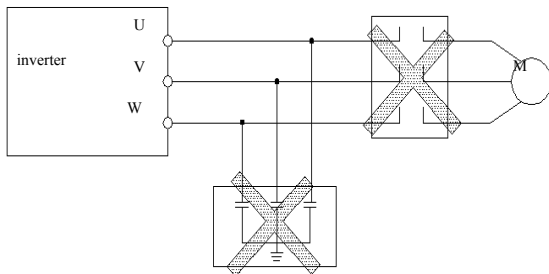

Fig.3-3 Forbid to use contactor and absorbing capacitor
- (1) Assure power be cut off completely for above 10 minutes before wiring, otherwise there is danger of getting electric shock.
- (2) Forbid connecting power wire to output U, V, W of the inverter.
- (3) If there is current leakage inside inverter, when current leakage greater than 5mA for medium & big power inverter, inverter and motor must be earth grounding for safety assurance, and the diameter of earth grounding copper cable is greater than 3.5mm^2 , resistor less than 10Ω .
- (4) Before shipment compression resistance test of the inverter is passed, so users should not conduct compression resistance test again.
- (5) Do not add absorbing capacitor or other resistance-capacitor absorbing device between inverter and motor; also do not add electromagnetic contact, show as Fig.3-3
- (6) To provide inverter over-current protection in output side and convenient maintenance under power off, it should be connected to power source through relay.
- (7) Relay, input & output circuit wiring (X1~X7, Y1, Y2/DO, TA, TB, TC, AI1, AI2, AO, 485A, 485B) should select greater than 0.75mm^2 stranded wire or shielding wire. One end of the shielding layer hang in the air, and the other end connect to inverter earth grounding terminal, connection wire shorter than 20m.